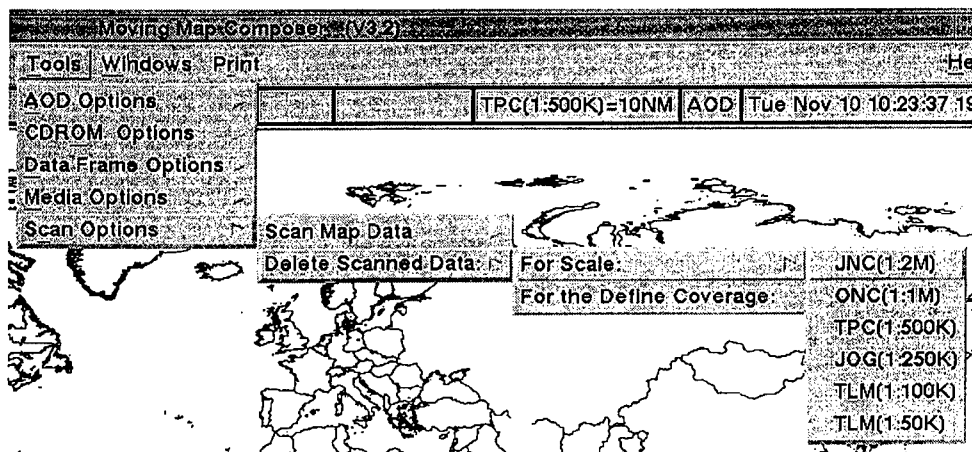

Fig. 66 — Delete all scanned data (for a given scale) from the MMC hard disk
- 1) To delete all scanned data (at a given scale) from the hard disk, click on *Tools, Scan Options, Delete Scanned Data, For Scale*, then the scale to delete (Fig. 66). MMC will request verification; click on *Continue* to proceed or *Abort* to cancel. If these scanned data have not been archived to CD, MMC will display a warning; click on *Delete anyway* to proceed or *Abort* to cancel. MMC will display a meter to show the percent of scanned data deleted until it has finished.